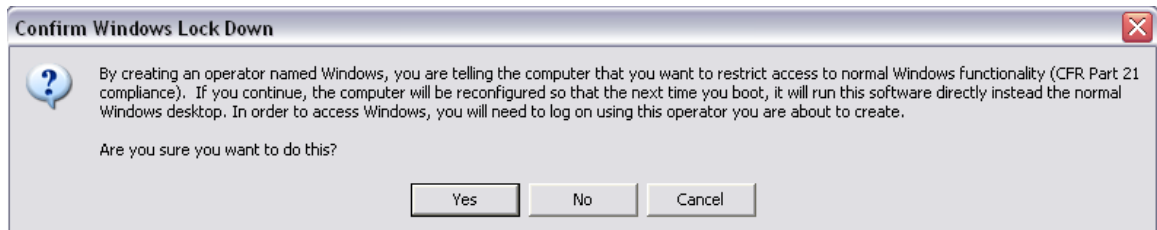

Figure 48: "Confirm Windows Lock Down" message
9. The **Confirm Windows Lock Down** message appears (Figure 48); click **Yes**.